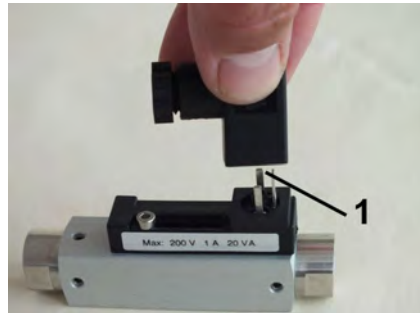

Fig. 22: Remove socket
2. Remove the socket (Fig. 22/1)